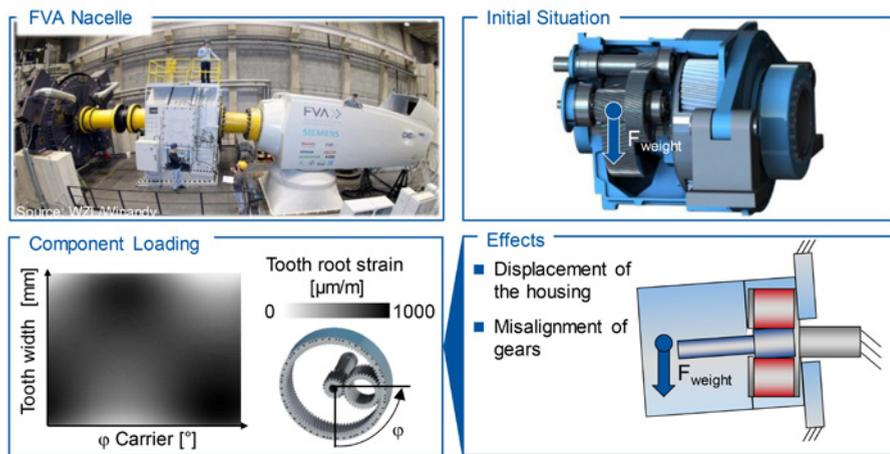

Figure 6 Test setup and occurring effects.
**Measurement results of the FVA nacelle.** The planet carrier is connected to the rotor of the wind turbine and supported by a main bearing (Fig. 6). The gear housing, in which the remaining gears are mounted, is supported by two flexible mounting points on the torque arm of the main frame. This mounting of the housing enables a tilting of the gear housing due to the weight force in comparison to the planet carrier (Ref. 15).